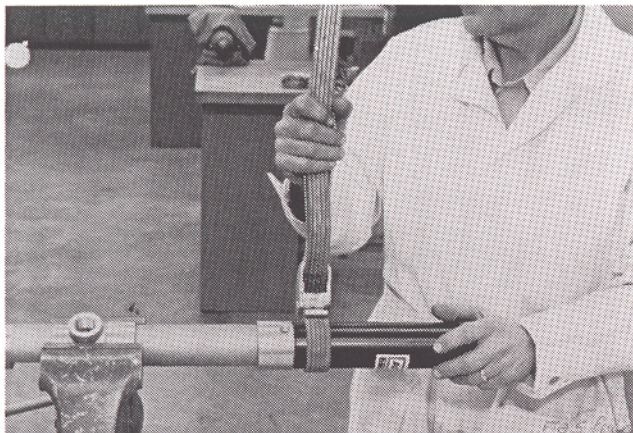

FIGURE 4
3. Unthread and remove the **6** cylinder, from the **16** pump body, by using a strap wrench on the **6** cylinder as shown in Fig. 4.